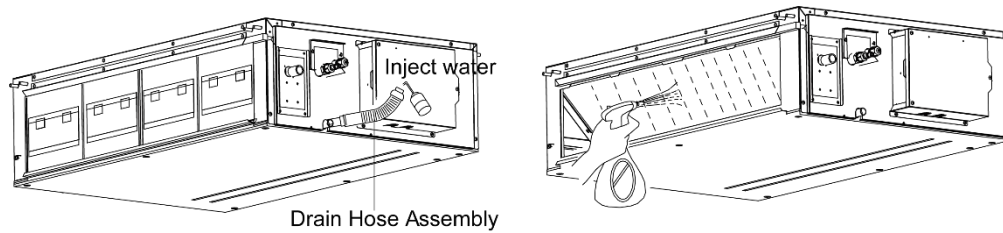

Fig. 19
- a. Inject approximately 1L of purified water into the drain pan from the air vent, being careful not to splash water onto the electrical components (e.g. water pump. Etc. Fig. 19).